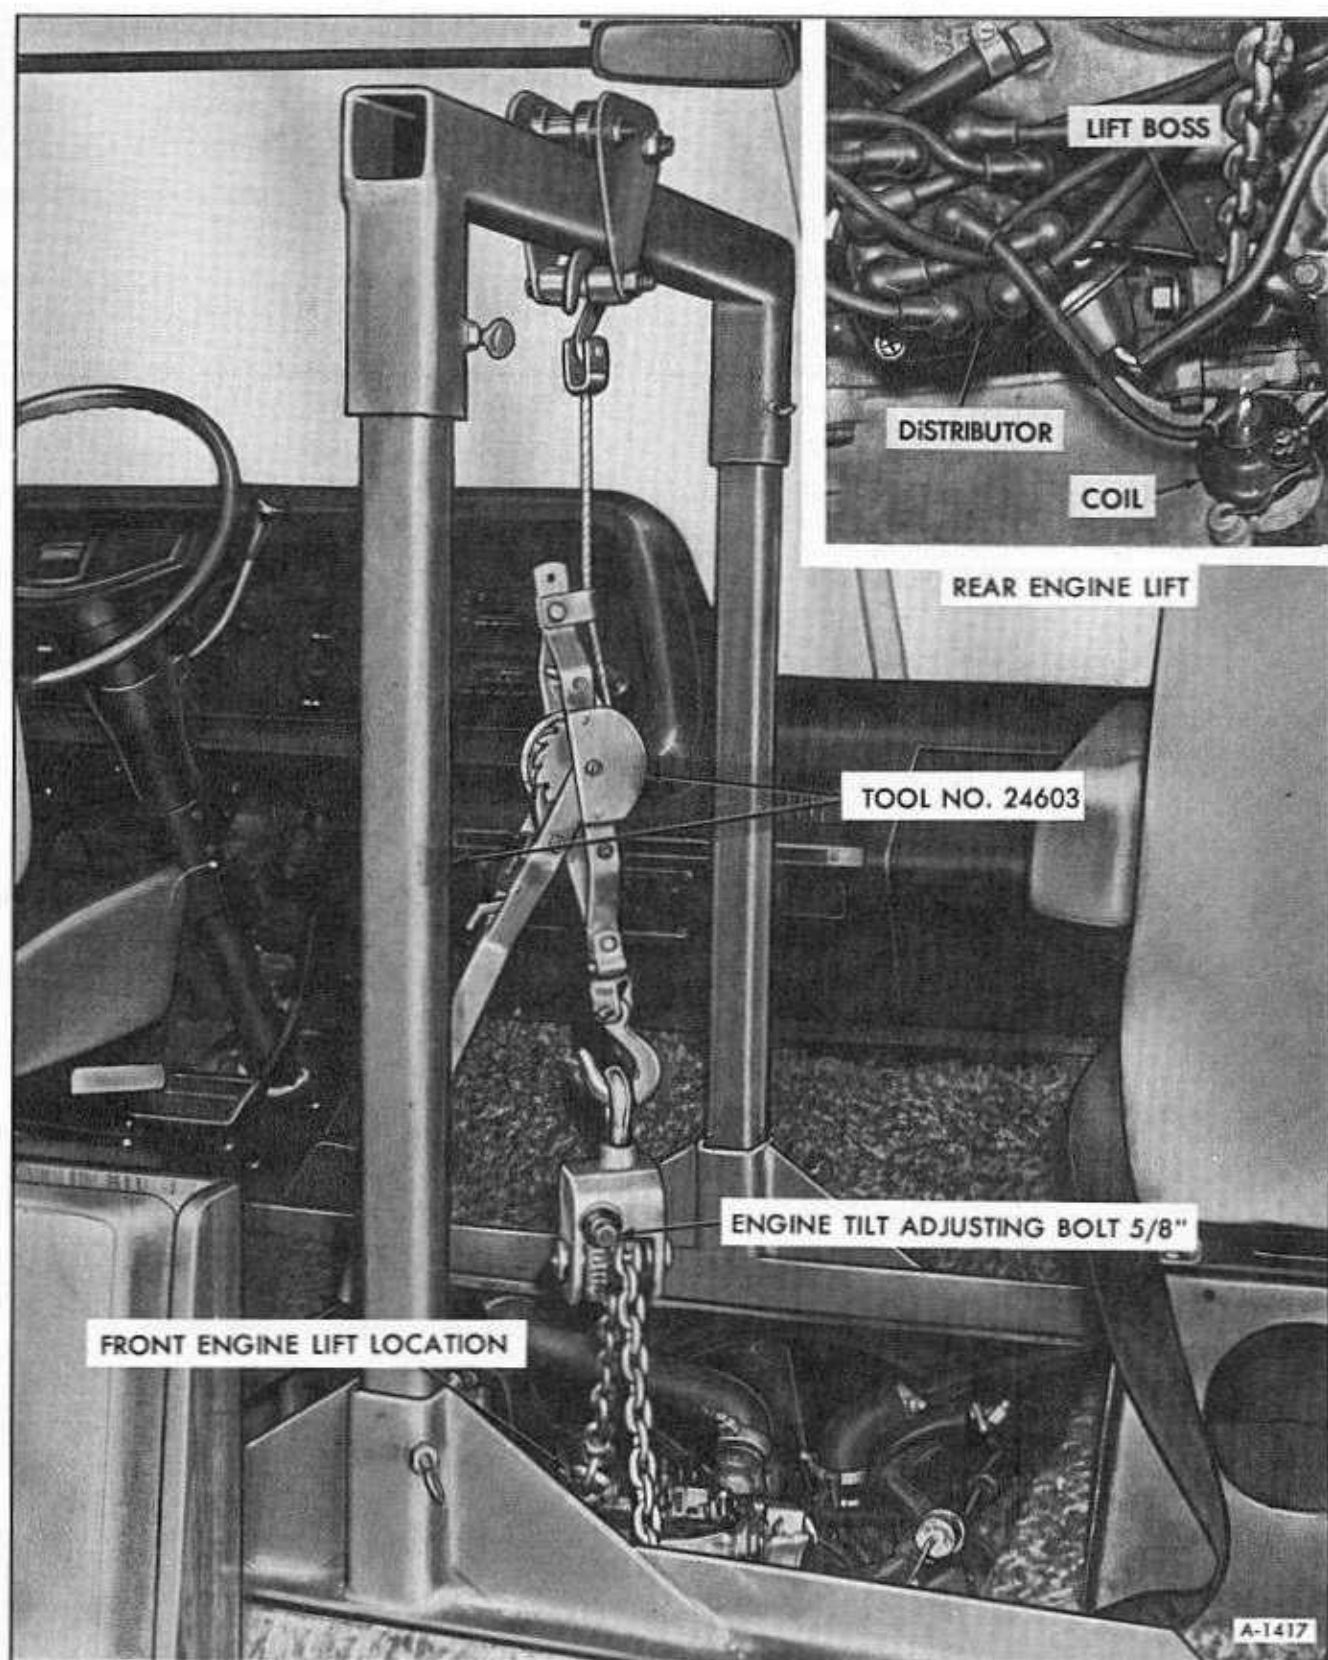

Figure 28—Engine Holding Fixture
3. Position engine holding fixture as shown in Figure 28 and adjust mechanism to remove slack from cable.